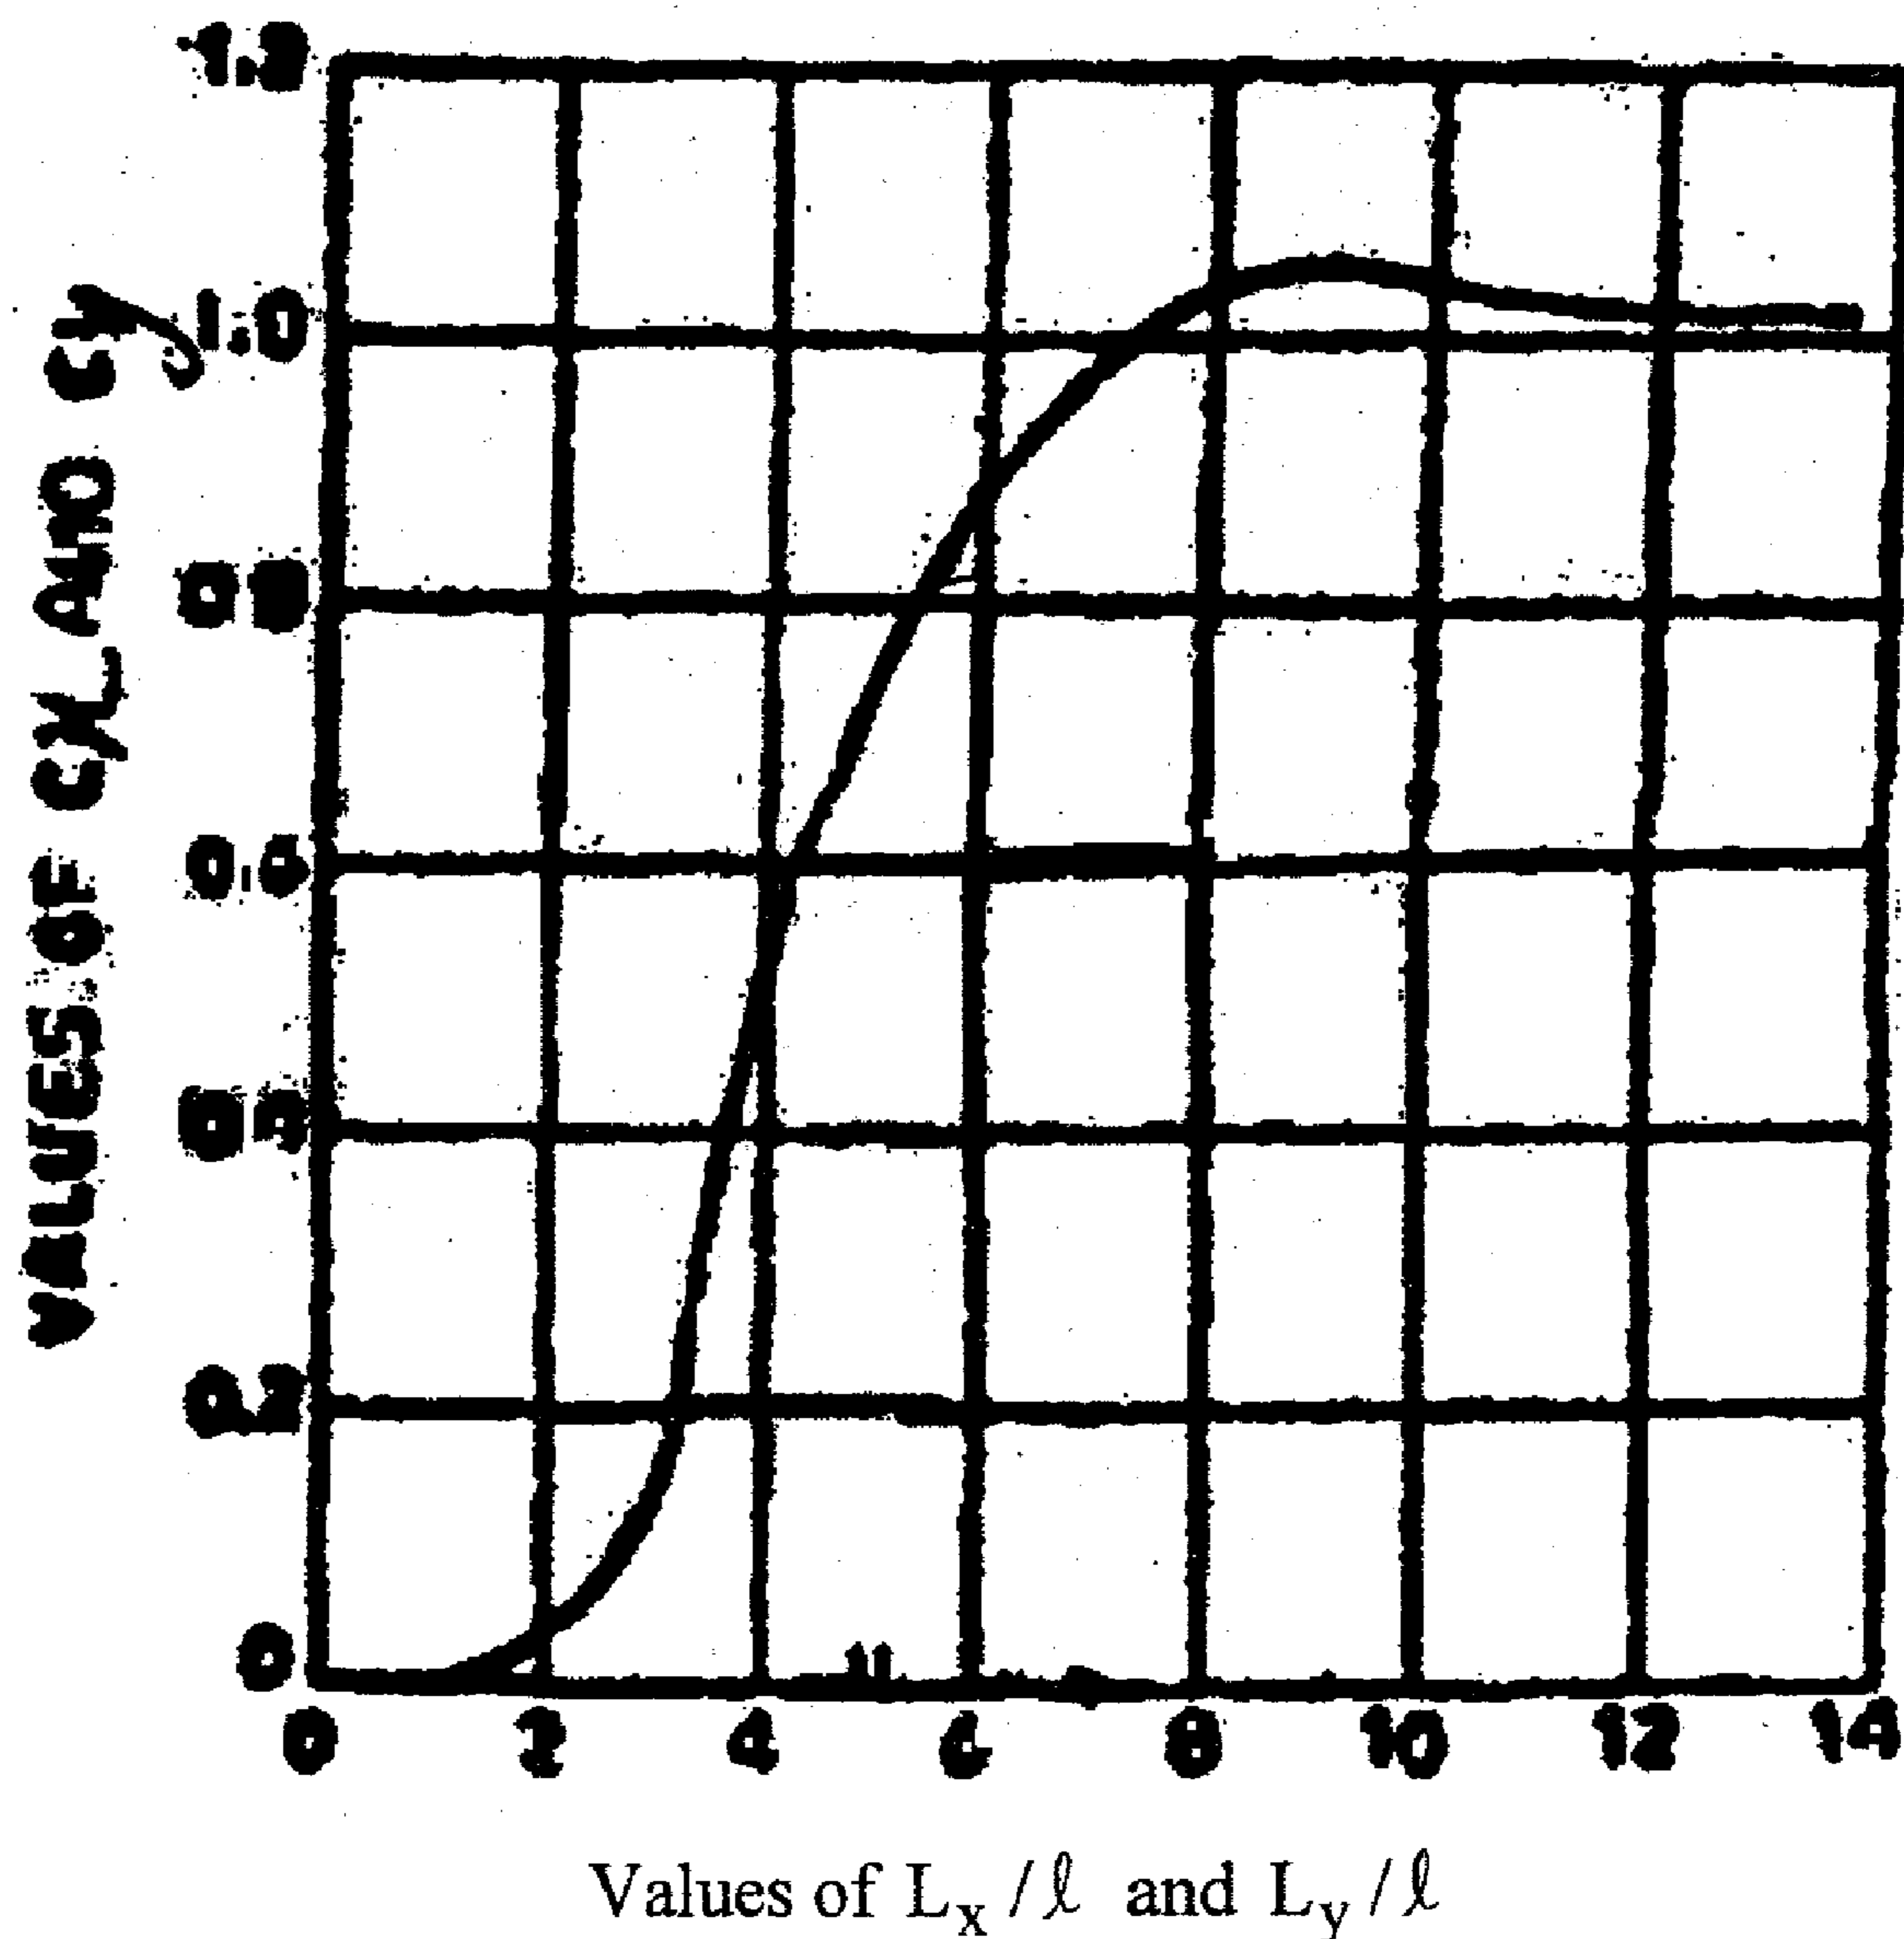

Fig. Q5(b)
- b. Calculate the warping stresses at interior, edge and corner for a concrete pavement of thickness 200 mm with transverse joint at 4.0 m spacing. The width of slab is 3.7 m. For concrete $E = 3 \times 10^4$ N/mm² and $\mu = 0.15$, k value for subgrade = 0.06 N/mm³. Temperature differential is 0.9°C per cm. Assume thermal coefficient of concrete as 10×10^{-6} per °C. Assume radius of loaded area as 150 mm. Use chart in Fig. Q5(b). (12 Marks)